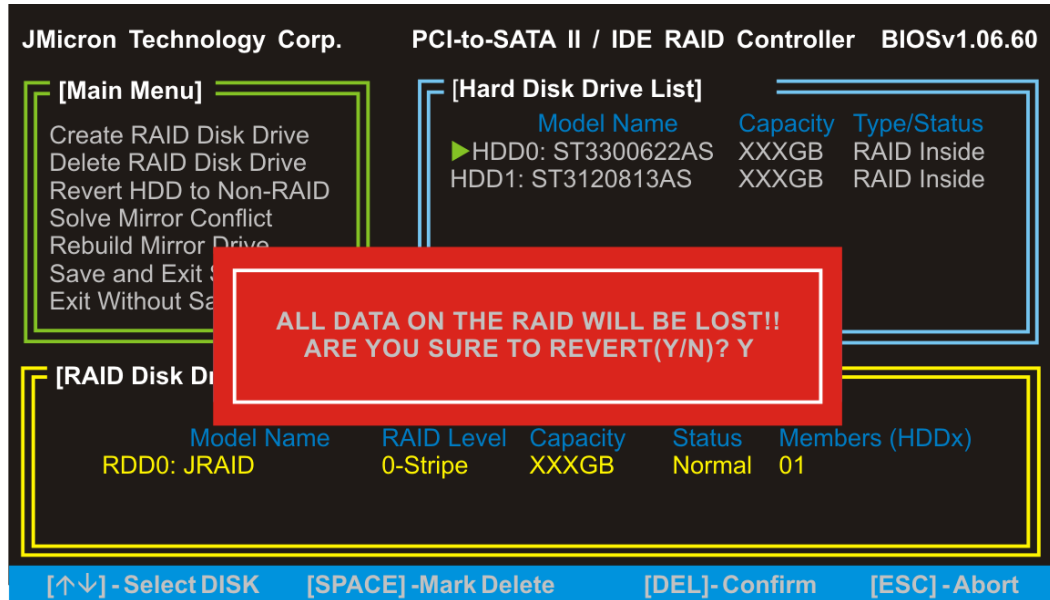

Figure D-15: Confirm revert HDD to non-RAID
Step 2: A confirmation message appears (Figure D-15). Press Y to confirm the action.